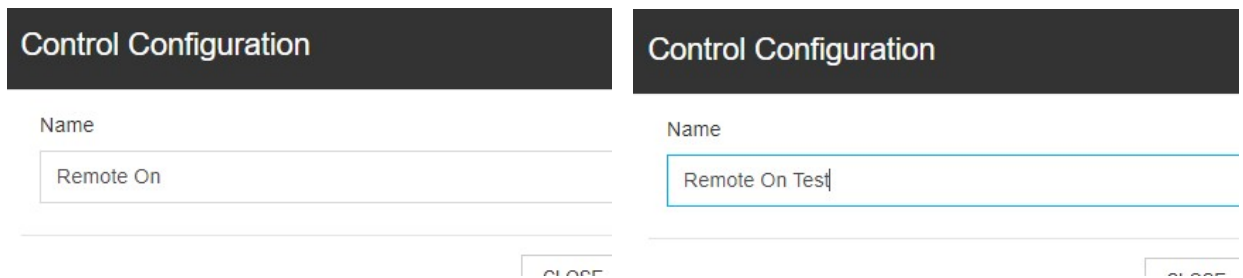

Figure 6-34 Control edit page
2. The **Control Configuration** page is displayed. If you do not make any modification, the **SAVE** button is unavailable. If you click **CLOSE**, the system exits the edit page (as shown in Figure 6-34).